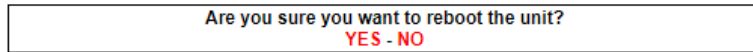

Figure 62. Configurator GUI (unit reboot dialog)
- The unit reboot dialog will be shown (Figure 62 (page 138)).